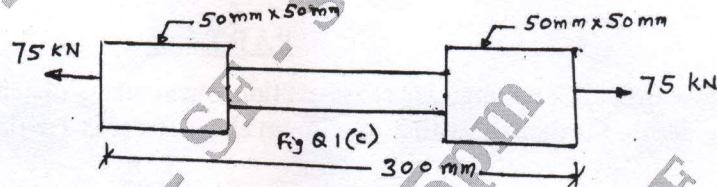

Fig.Q1(c)
- c. A tie bar has enlarged ends of square cross-section 50mm × 50mm as shown in Fig.Q1(c). If the middle portion of the bar is also a square section, find the size and length of the middle portion. The stress in the middle portion has to be limited to 150 MN/m² and the total extension of the bar is 0.15mm. E = 200 GN/m² (10 Marks)